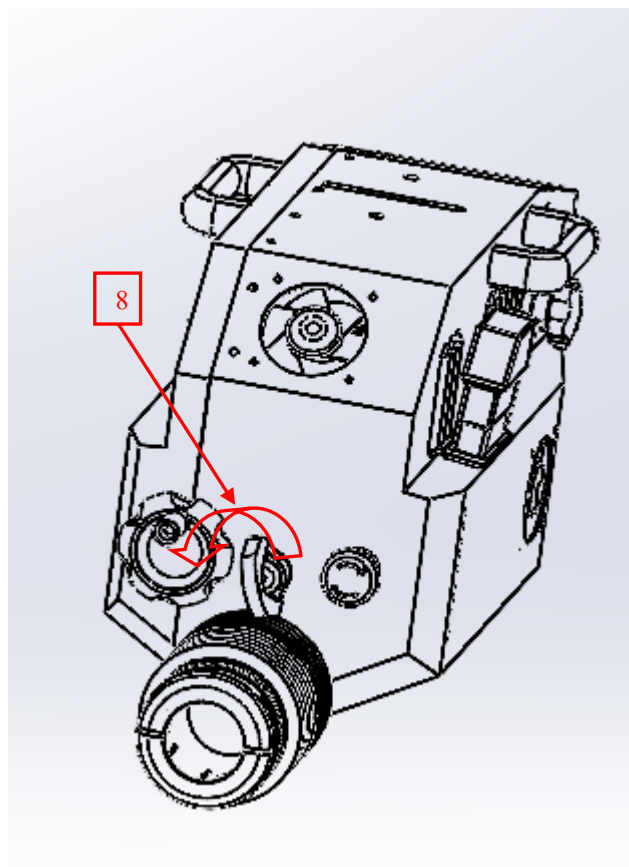

Figure 5.4
- 5.1.9 Unscrew the hook located near the stop button, as shown in figure 5.4 – position 8;